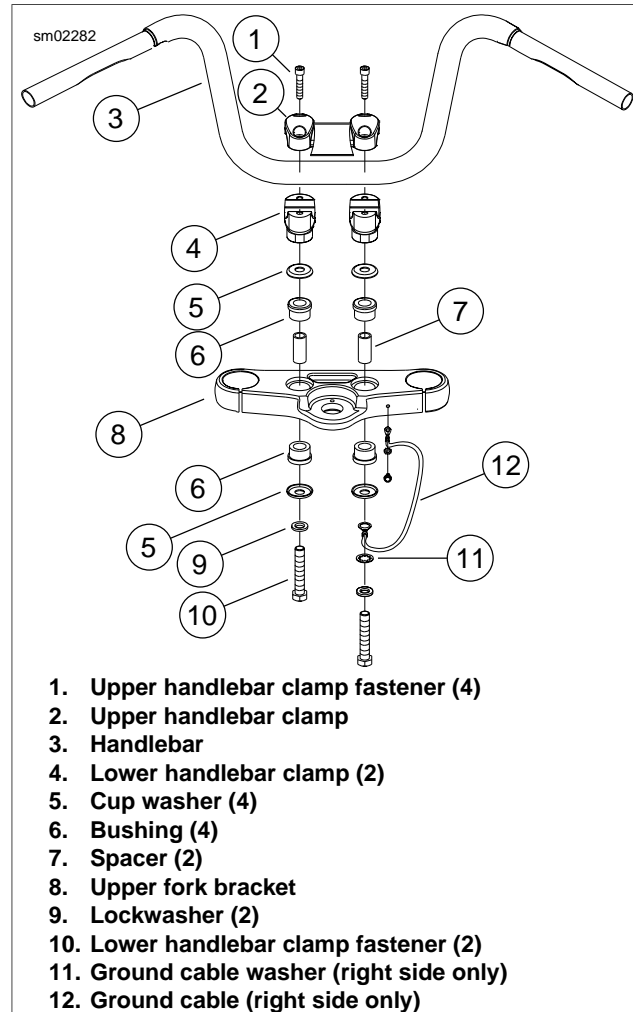

Figure 2-104. Handlebars: FXDWG/FXDF (FXDWG shown)
14. See Figure 2-104. Remove upper handlebar clamp fasteners (1) and upper handlebar clamp (2). Remove handlebar.
15. If removing lower handlebar clamps (4), remove two lower handlebar clamp fasteners (10), lockwashers (9), ground cable (12) and ground cable washer (11) and lower handlebar clamps from upper fork bracket (8). Replace bushings (6) if necessary.
11. See Figure 2-104. If lower handlebar clamps (4) were removed, install lockwashers (9) on lower handlebar clamp fasteners (10). Install ground cable (12) and ground cable washer (11) on right-side fastener.
12. If removed, install cup washers (5), bushings (6) and spacers (7) in upper fork bracket (8).
13. Slide lower handlebar clamp fasteners (10) through upper fork bracket.
14. Loosely install lower handlebar clamps (4) to upper fork bracket using lower handlebar clamp fasteners.
15. Place handlebars (3) on lower handlebar clamps. Install upper handlebar clamps (2). Install but do not tighten clamp fasteners (1).
26. See Figure 2-104. Remove one lower handlebar clamp fastener (10). Apply LOCTITE HIGH STRENGTH THREADLOCKER 271 (red) to fastener threads.